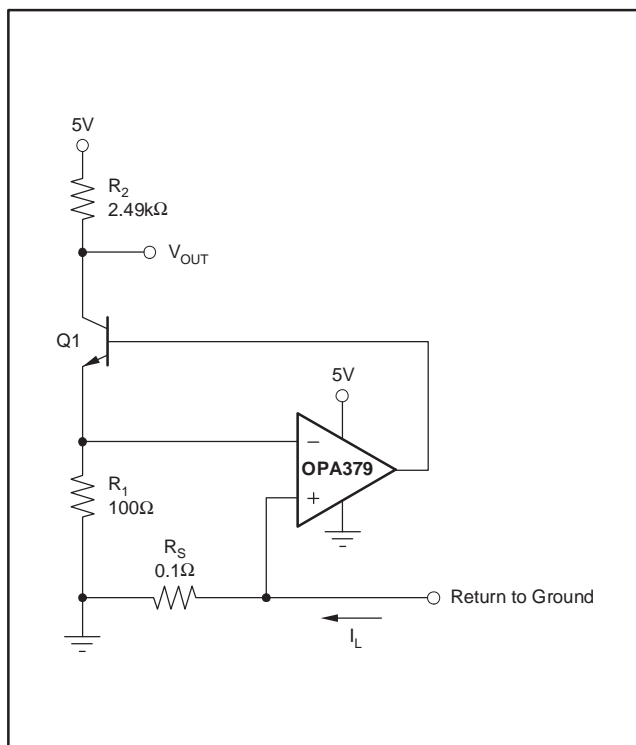

Figure 5. Low-Side Current Monitor
The micropower OPA379 is well suited for current monitoring circuits in applications such as a voltage regulator with fold-back current limiting, or a high-current power supply with crowbar protection. Figure 5 shows the OPA379 monitoring the current in a power-supply return path using a 0.1Ω shunt resistor. The NPN transistor, Q1 (2N2222 or equivalent) is used to generate equal voltages at the inverting and noninverting inputs. Therefore, the voltage drops across  $R_1$  and  $R_S$  are equal, and the current flowing through Q1 is directly proportional to the current flowing through  $R_S$ . As the load current increases, the current through Q1 increases, the voltage drop across  $R_2$  increases, and this decreases the output voltage,  $V_{OUT}$ , as shown in Equation (5):